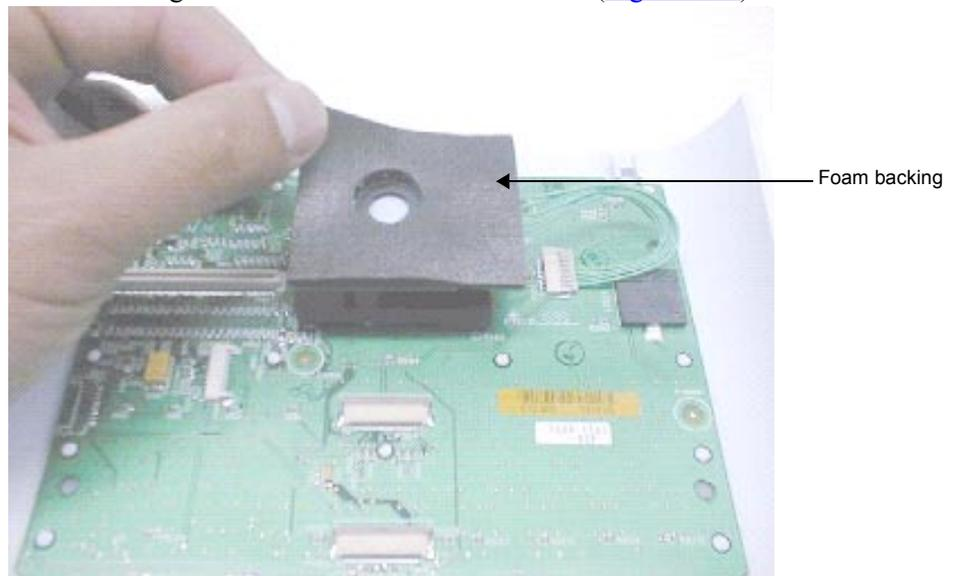

Figure 7.10 Removing the Foam Backing
11. Remove the foam backing from the Trackball to expose the four screws connecting the Trackball to the Control Panel (Figure 7.10).